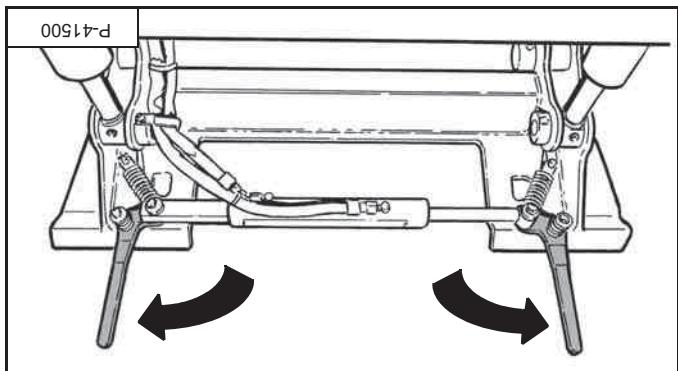
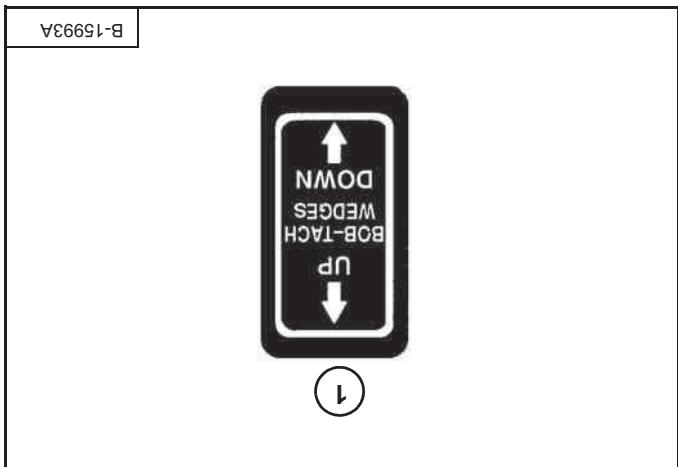

Figure 67
Figure 66
Push and hold the Bob-Tach "WEDGES UP" switch (item 1) [Figure 66] until the levers are fully raised (wedges fully raised) [Figure 67].